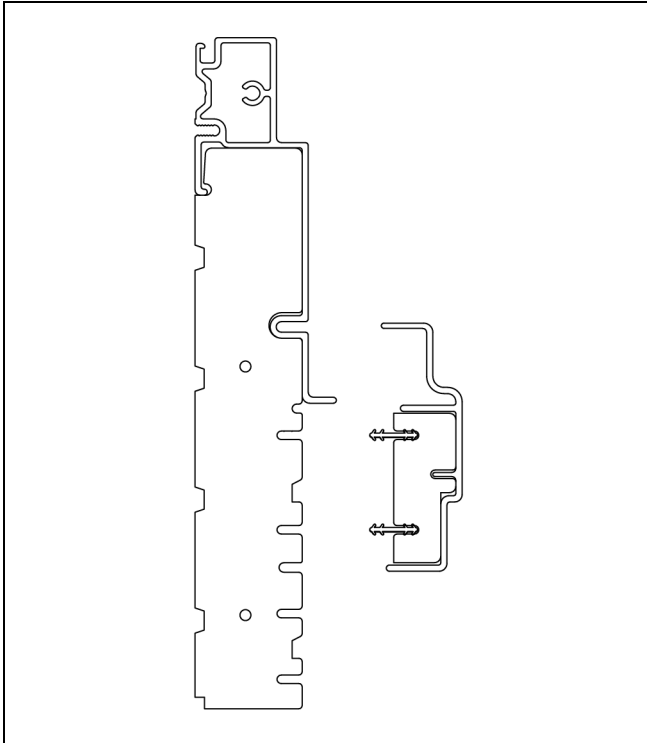

Figure 74
4. Install the frame cover. See Figure 74.